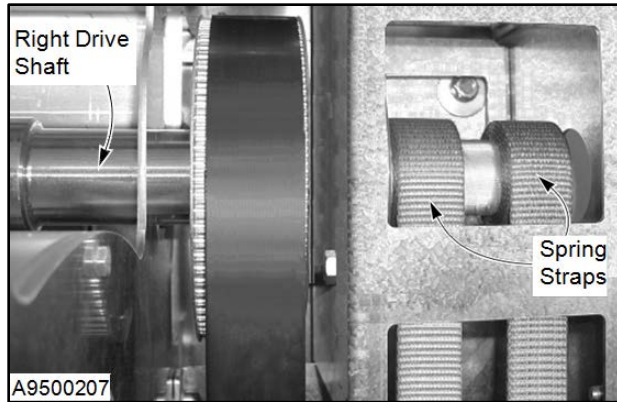

Figure 26
10. Inspect the clamp plate securing the upper end of each spring strap to its respective drive shaft. Tighten the hardware as required. Replace any missing or damaged hardware. (See Figure 26.)